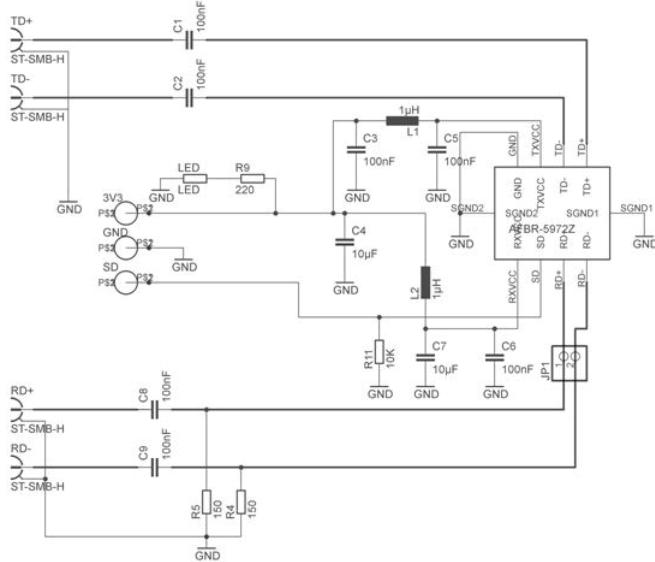

Figure 2. Schematic of the AFBR-0544Z evaluation board
The evaluation board schematic is shown in Figure 2. The transmitter is AC coupled and LVDS compatible as well as LVPECL compatible (Circuit diagram shown in application note - AN 5523), and the receiver is AC coupled and LVPECL compatible as well as LVPECL compatible (Circuit diagram shown in application note). The signal detect (SD) pin is LVPECL compatible. The thick PCB trace between the SMA connector and the input/output pins of AFBR-5972Z represents a $50\ \Omega$ transmission line. The top- and bottom-sides of the evaluation PCB are shown in Figure 3(a) and 3(b) respectively.
The AFBR-0544Z evaluation board electrical schematic is shown in Figure 2, and the bill of materials (BOM) is given in Table 2.